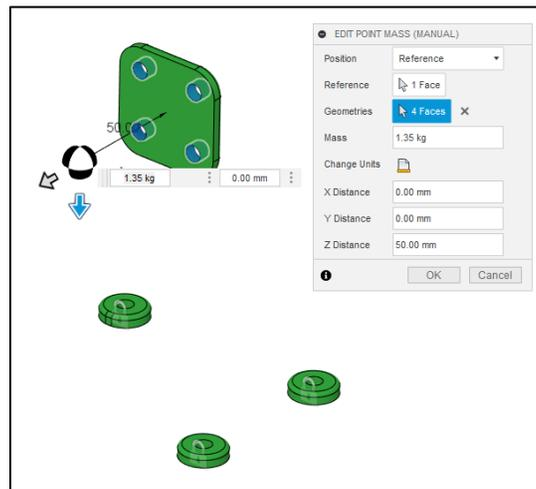

Figure 2-11. Point Mass representing a Tip/Tilt assembly bolted to a *Preserve*.
The most common load case for launch is acceleration applied to **Point Masses**. In NASTRAN terms, this is the RBE3 + CONM2 approach typically used to conservatively represent components of unknown stiffness. Each component mounted to the structure should be represented by a **Point Mass** located at the center of gravity (CG) of the component. If the precise CG is not known, an approximate “eye-balled” location can be used for preliminary design. The **Point Mass** is then attached to **Preserve** geometry, usually surfaces where the component is bolted or bonded as shown in Figure 2-11.